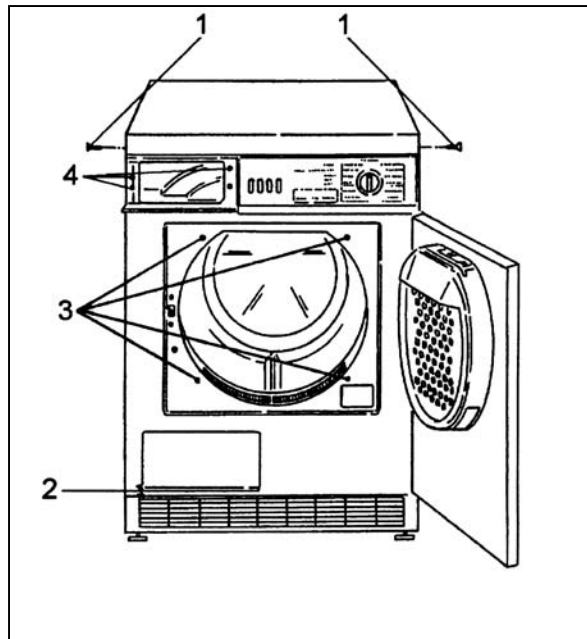

Figure 5-1: Lid Removal and Front Panel Access
Refer to figure 5-1.
2. Remove the four (4) screws (Figure 5-1 – Item3).
3. Remove the two (2) screws (Figure 5-1 – Item 4)
4. Press the spring clip (Figure 5-1 – Item 2) down with the lid opener and open the front panel.